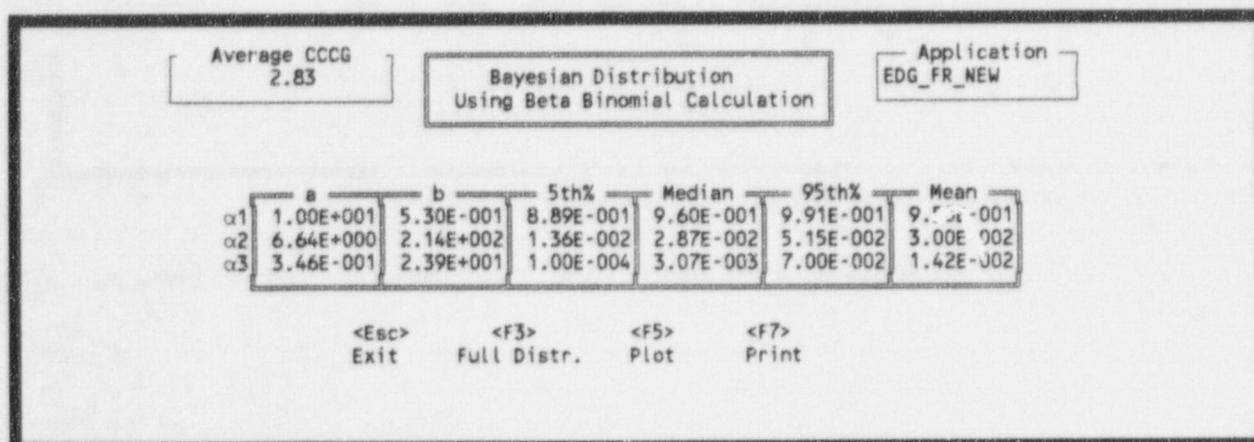

Figure 54. Specific—Hierarchical Bayesian Method results.
**4.2.1.2.2.1 Hierarchical Bayesian Method—View Previous Results**—The results of the last Hierarchical Bayesian calculation saved will be displayed in Figure 54.
Once the calculation has completed the Hierarchical Bayesian Method Results screen (Figure 54) will be displayed.